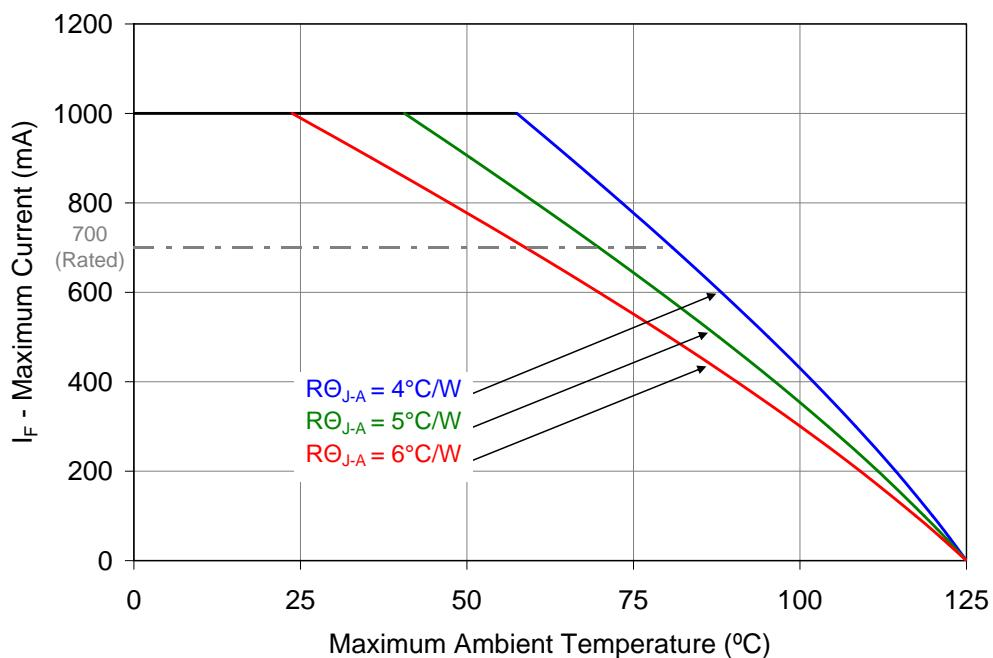

Figure 10: Maximum forward current vs. ambient temperature based on  $T_{J(MAX)} = 125^{\circ}\text{C}$ .
1. Maximum DC forward current is determined by the overall thermal resistance and ambient temperature. Follow the curves in Figure 10 for current derating.
Notes for Figure 10: